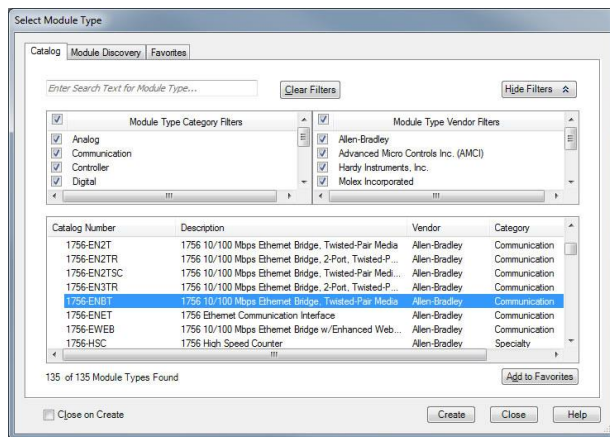

Figure 14: Adding a New Module
- 5) Select the “1756-ENBT”, and click “Create”. Refer to Figure 14.